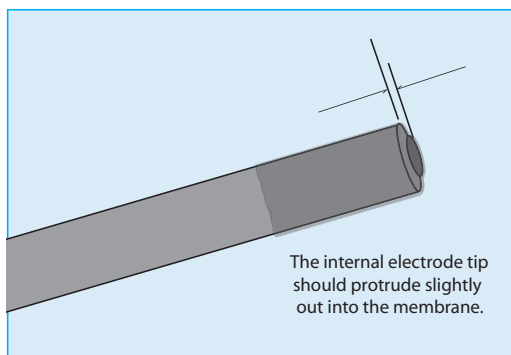

Fig. 6—Membrane placement. The internal electrode tip should protrude slightly out into the membrane.
8. Slowly and smoothly insert the electrode into the sleeve, and screw the locking cap into the handle. The electrode should be observed to press gently against the membrane (**Fig. 6**).